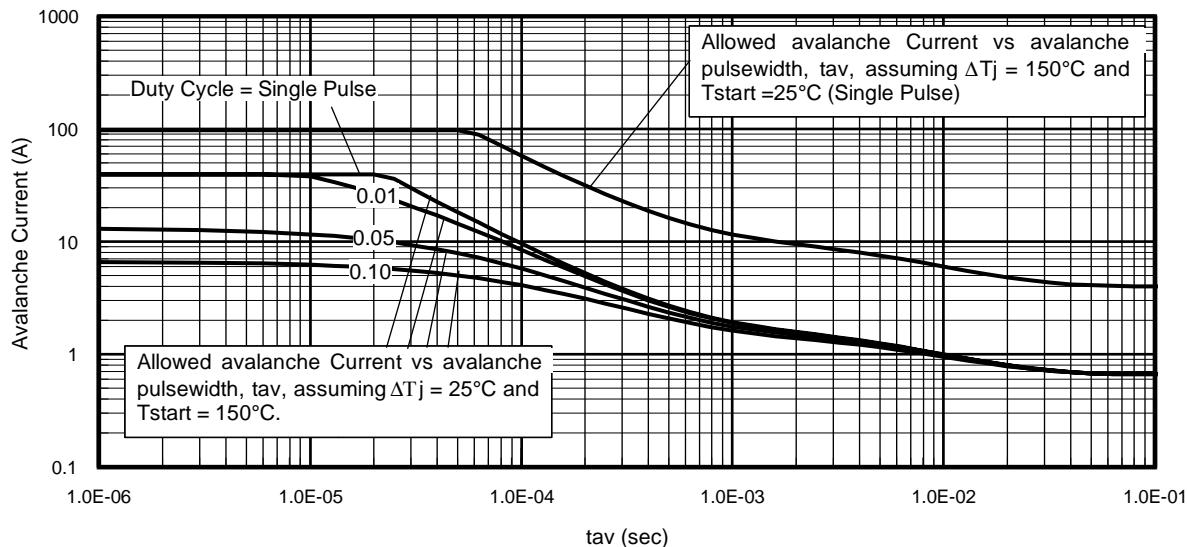

Fig 14. Typical Avalanche Current vs.Pulsewidth
| I _{AR} | Avalanche Current ① | See Fig. 14, 15, 16a, 16b | A |
Notes on Repetitive Avalanche Curves , Figures 14, 15:
7. ΔT = Allowable rise in junction temperature, not to exceed T_{jmax} (assumed as 25°C in Figure 14, 15).